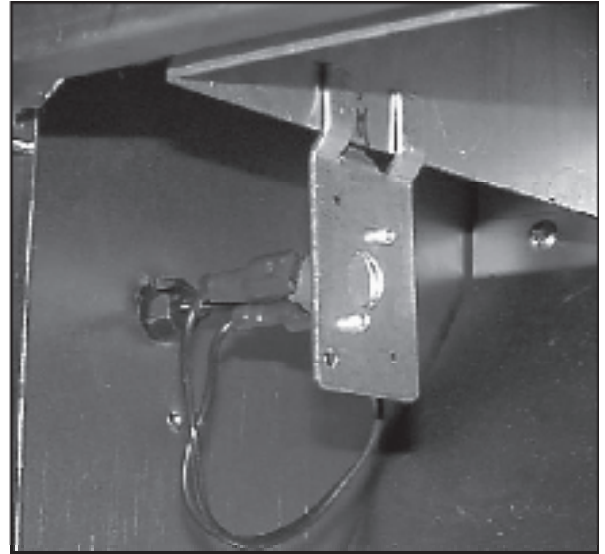

Figure 2: Blocked Vent Switch
- 4) The AWR, CWI, BSI, Series 16 and some Series 32 Boilers are equipped with a blocked vent shut-off switch (Figure 2). This switch will shut the boiler down in the event that there is an excessive blockage in the vent system. This switch has a reset button, which must be pressed before the boiler can be restarted.